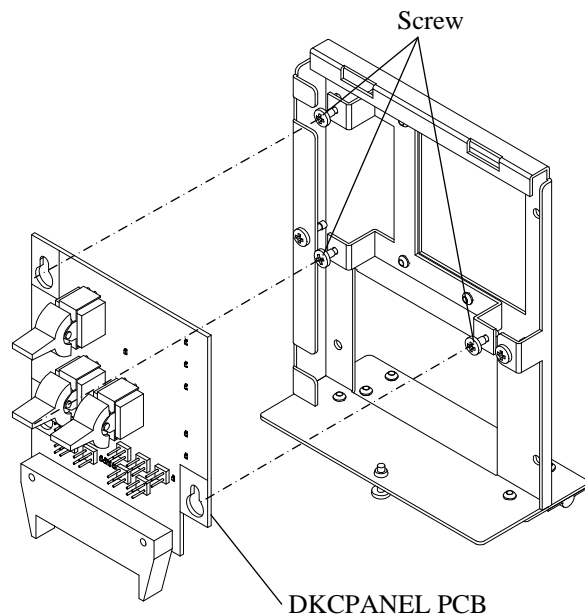

Fig. 3.16.2-5 Removal of DKCPANEL PCB
- f. Attach the cover, and tighten the two screws. (Refer to Fig. 3.16.2-4.)
- g. Connect the cable (P1) to the DKCPANEL PCB. (Refer to Fig. 3.16.2-3.)